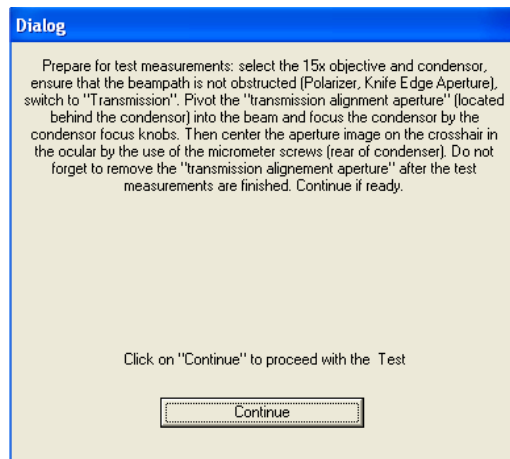

Figure 20: OPUS Reminder Message
- Thereupon, the message window shown in figure 20 appears reminding you to check whether the microscope is prepared as described in section *PQ Test Procedure*, subsection *Preparing the Microscope in Transmittance for the PQ Test*.